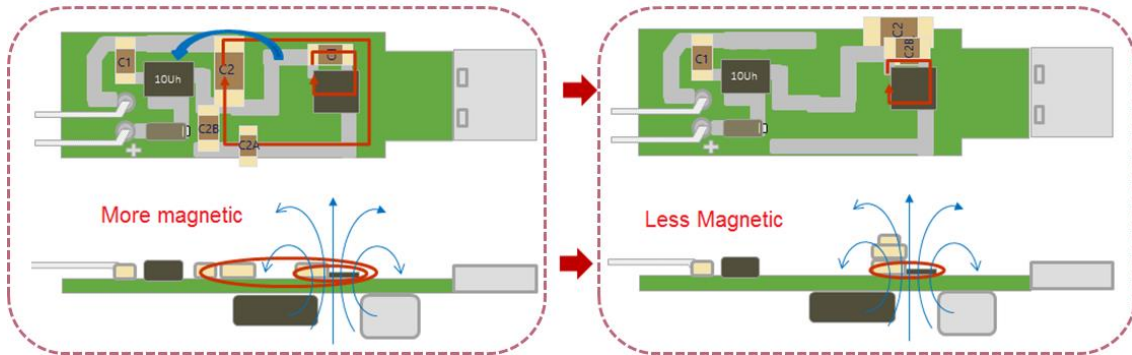

Figure 10: Less Magnetic Field when the Input Filter Capacitor Is Close to the IC
- Place the input filter capacitor close to the IC (see Figure 10).